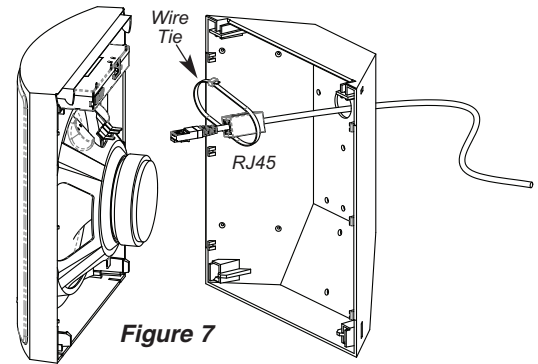

Figure 7
**STEP 2** - Using shielded Category 5 or higher Ethernet cable is recommended. If it is not available, add the clamp-on ferrite bead that is located in the installation kit to the Ethernet cable and secure it with the wire tie to the speaker cage (**Figure 7**).